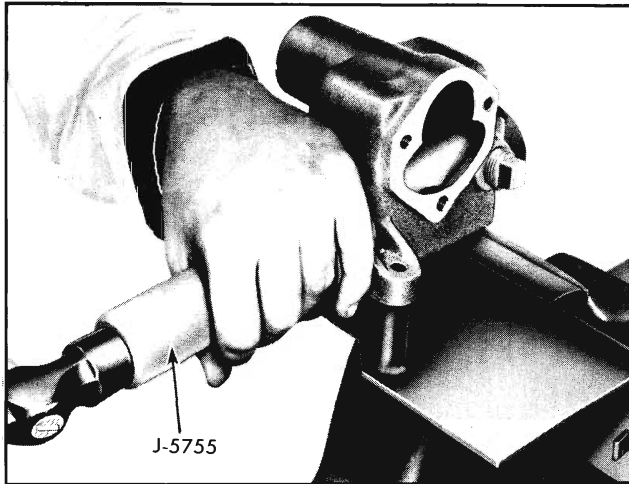

Fig. 9-27 Installing Upper Bearing Cup
3. Install upper bearing cup using tool J-5755 (Fig. 9-27).